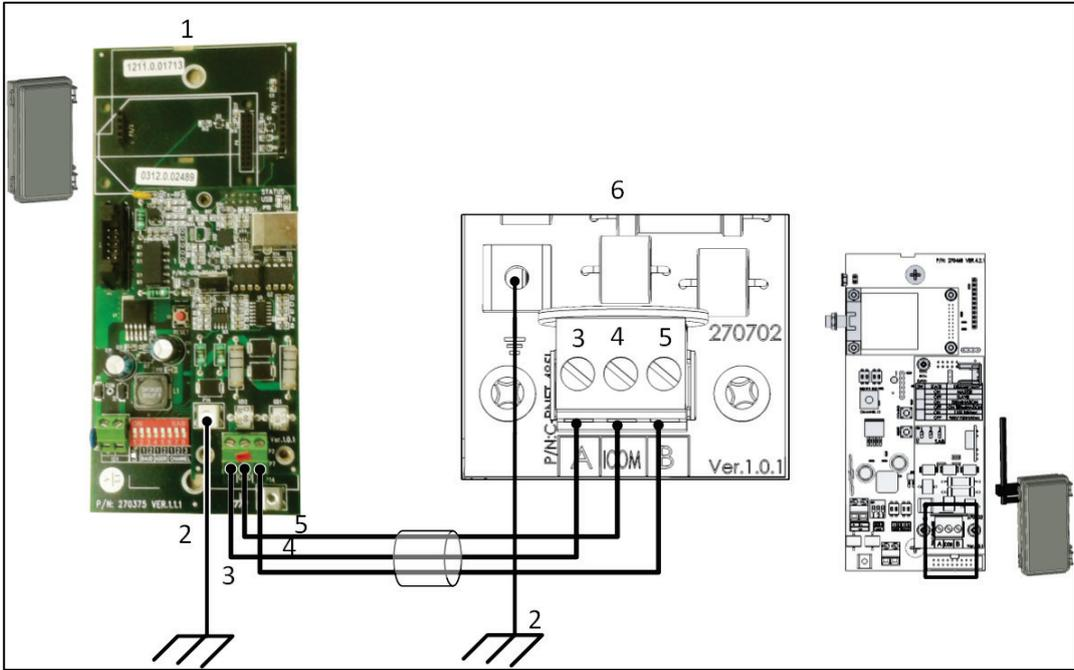

Figure 24: Wiring a USB RS-485 to an RLINK ONE
- Figure 24: Wiring a USB RS-485 to an RLINK ONE
Figure 24 key